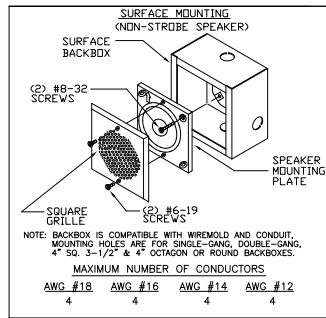

Figure 5
- 1.This model can be flush mounted to a 4" square by 2-1/8" deep backbox with a 4" square 1-1/2" extension ring or surface mounted to a Surface Backbox (Figure 5). Mounting hardware for each mounting option is supplied.
- 5.Mount the chime mounting plate to the backbox with the cone protector on. After the chime mounting plate is attached to the backbox, remove the cone protector before installing the grille. Next, attach the grille to the chime mounting plate and attach with (2) screws.